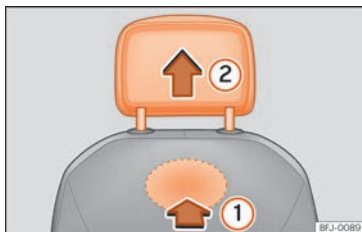

Fig. 105 Front headrest: removal.
- To unlock it, look for the rabbit on the bottom of the backrest and press in the direction of the arrow » » » Fig. 105 ①.
- Remove the headrest in the direction of the arrow ②.